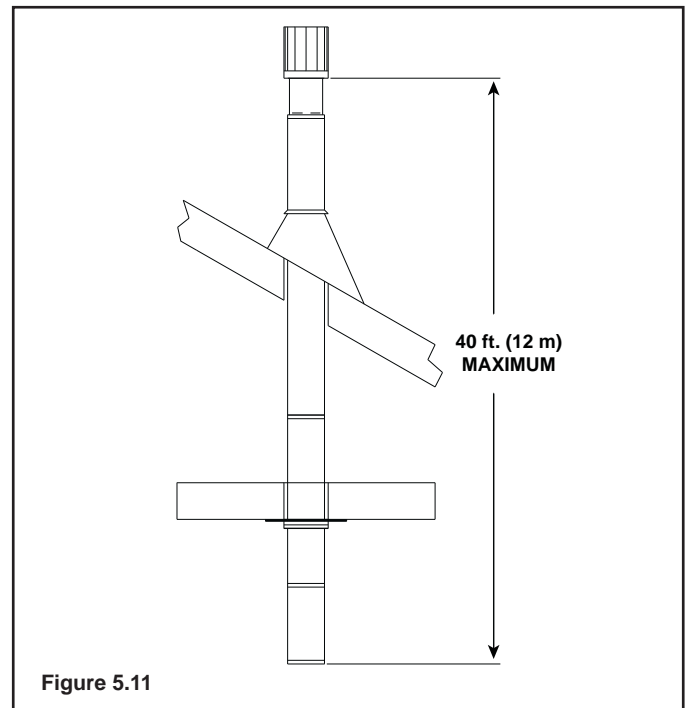

Figure 5.11
**Note:** Maximum vertical rise allowable is 40 ft. (10.7 m), Figure 5.11. Maximum number of 45° elbows permitted for a vertical installation is eight, provided their installation does not decrease maximum allowable horizontal run (as specified by vent graph, on page 12).